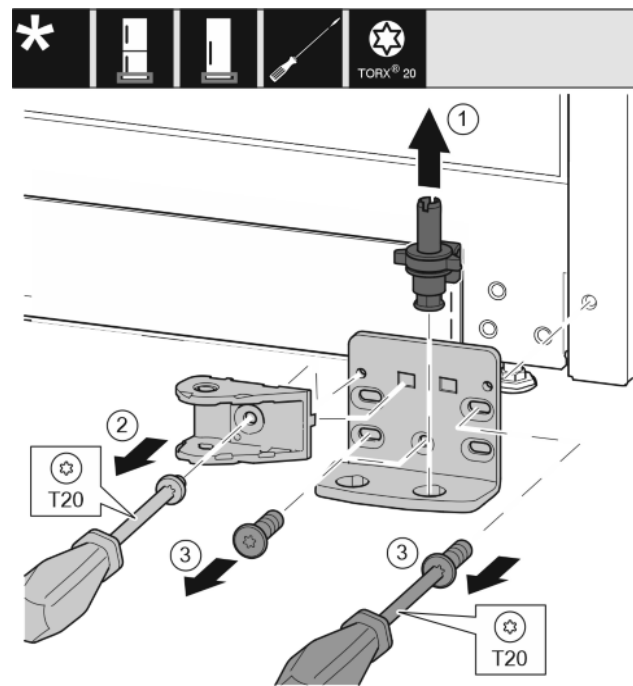

Fig. 27
- Lift the bearing pin completely upward and pull it out. Fig. 27 (1)
- Take out the screw with a T20 screwdriver and take off the soft stop connection. Fig. 27 (2)
- Take out the screws with a T20 screwdriver and take off the bearing bracket. *Fig. 27 (3)*